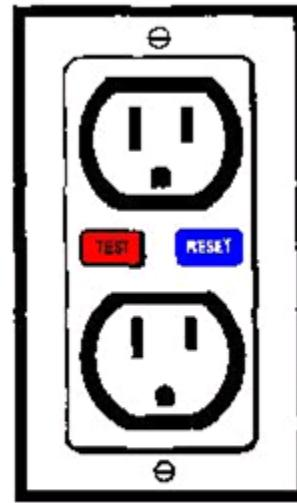

FIGURE 3 GFCI
Three-pronged, grounded type outlets should not be substituted for ungrounded outlets unless (1) a ground is connected to the outlet, or (2) a Ground Fault Circuit Interrupter (GFCI) protects the outlet. (Figure 3) Installing a new ground wire may require a licensed electrician to install a new wire to the circuit breaker box and may be prohibitively expensive. **A more**
If the inspector determines that the outlet is not properly grounded based on the results of the outlet tester, he/she may need to conduct some additional investigation to determine if a GFCI protects the outlet. A GFCI can be located at the outlet that is being tested or upstream on the circuit of the outlet. If the GFCI is at an outlet, it will look similar to Figure 3 above, and the inspector should accept the outlet as GFCI-protected after testing the functionality of the GFCI as indicated below.